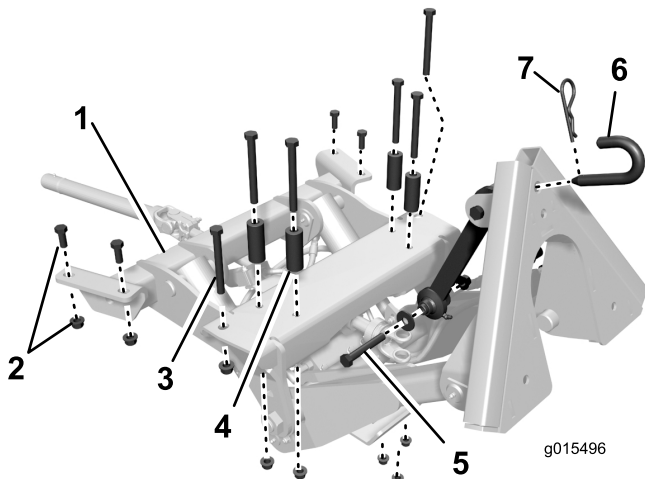
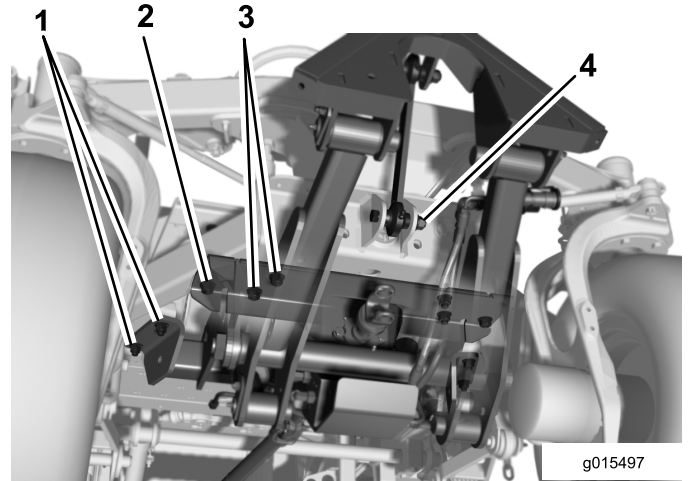

Figure 5
Figure 6
1. **Figure 5** shows the top view of the location, positioning, and size of the fasteners used to secure the front attachment frame to the underside of the traction unit frame.
3. Position the front attachment frame under the front of the machine (**Figure 6**).
4. Raise the front attachment frame while aligning the mounting holes with the mounting holes in the frame channels and the front frame cross plate (**Figure 6**).
5. On the front of the attachment, secure the outer hole, on each side, to the frame channels with a screw (1/2 x 4-1/2 inches) and a flange nut (1/2 inch) as shown in **Figure 6**.
6. On the rear of the attachment, loosely install each side to the frame channels with 2 screws (1/2 x 1-1/4 inches) and flange nuts (1/2 inch) as shown in **Figure 6**.
7. Using the remaining 4 mounting holes, secure the attachment to the frame cross plate with screws (1/2 x 4-1/2 inches), spacers, and flange nuts (1/2 inch) as shown in **Figure 6**. Position the spacers between the screw head and the cross plate.
9. Secure the top link assembly to the axle support with a screw (1/2 x 3-1/4 inches), 2 support washers, spacer, and a locknut (1/2 inch) as shown in Figure 5 and Figure 6.